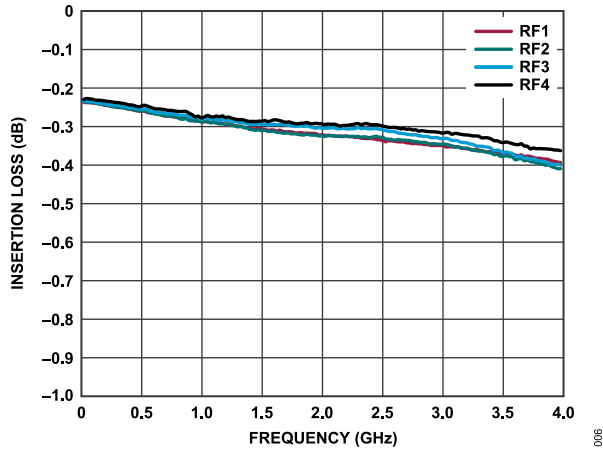

Figure 5. Insertion Loss for RFC to RFx Selected vs. Frequency
5. The ADRF5345-EVALZ is expected to have an insertion loss of 0.4 dB at 3.5 GHz. See the expected results in Figure 5.